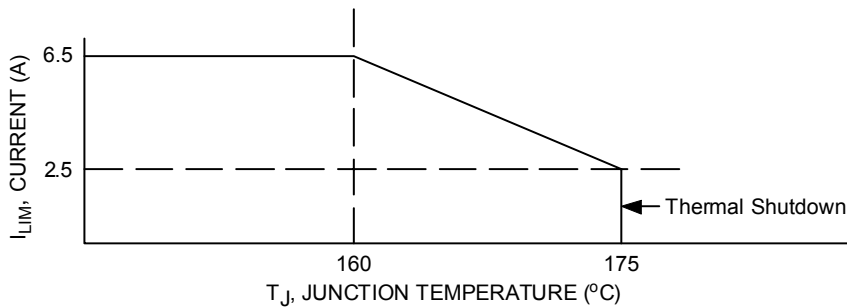
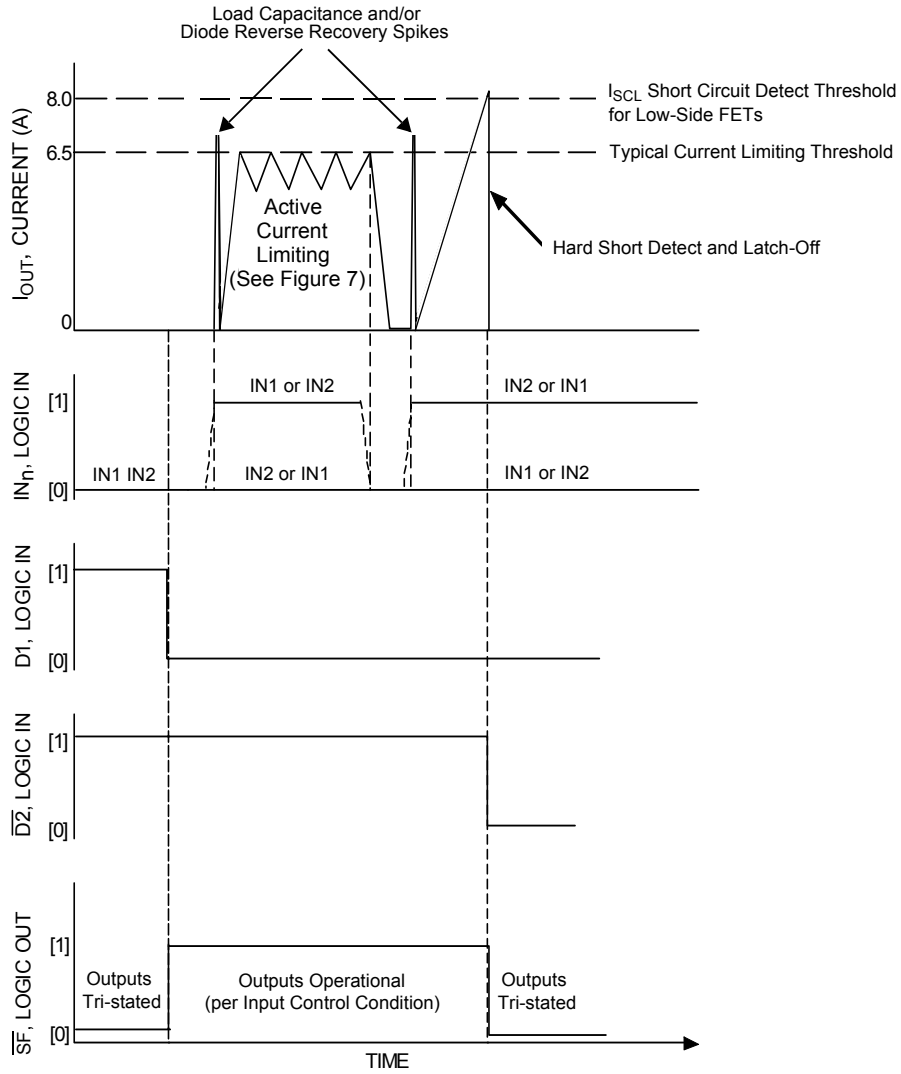

Figure 5. Active Current Limiting Versus Temperature (Typical)
Figure 6. Active Current Limiting Versus Time
26. Increasing currents will become limited at  $I_{\text{LIM}}$ . Hard shorts will breach the  $I_{\text{SCH}}$  or  $I_{\text{SCL}}$  limit, forcing the output into an immediate tri-state latch-OFF. See Figures 6 and 7, page 9. Active current limiting will cause junction temperatures to rise. A junction temperature above  $160^\circ\text{C}$  will cause the active current limiting to progressively "fold back" (or decrease) to 2.5 A typical at  $175^\circ\text{C}$  where thermal latch-OFF will occur. See Figure 5, page 8.
The current limiting threshold value is dependent upon the device junction temperature. When  $-40^\circ\text{C} < T_J < 160^\circ\text{C}$ ,  $I_{LIM}$  is between 5.2 A and 7.8 A. When  $T_J$  exceeds  $160^\circ\text{C}$ , the  $I_{LIM}$  current decreases linearly down to 2.5 A typical at  $175^\circ\text{C}$ . Above  $175^\circ\text{C}$  the device overtemperature circuit detects  $T_{LIM}$  and overtemperature shutdown occurs (see Figure 5, page 8). This feature allows the device to remain operational for a longer time but at a regressing output performance level at junction temperatures above  $160^\circ\text{C}$ .